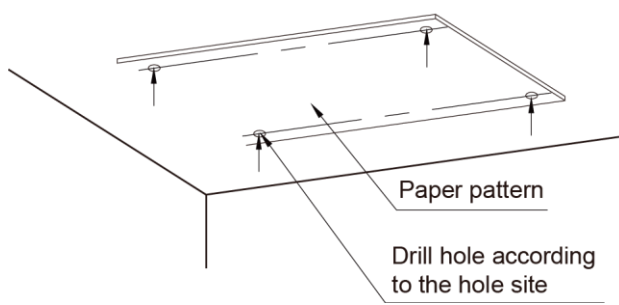

Fig 4.1.2
- 1) Stick the reference cardboard on the installation position; drill 4 holes according to the hole site on the cardboard as shown in fig 4.1.2; diameter of drilling hole is according to the diameter of expansion bolt and the depth is 60-70mm